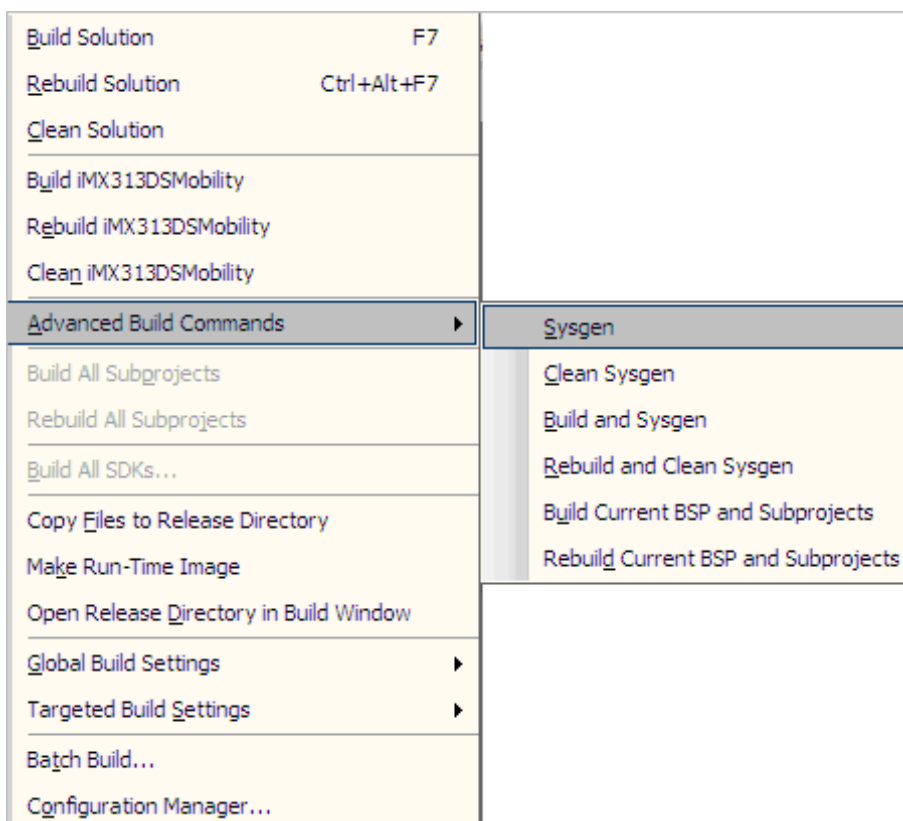

Figure 4-1 Building the BSP for the First Time
3. Click **Build > Advanced Build Commands > Sysgen** to start the build (Figure 4-1).